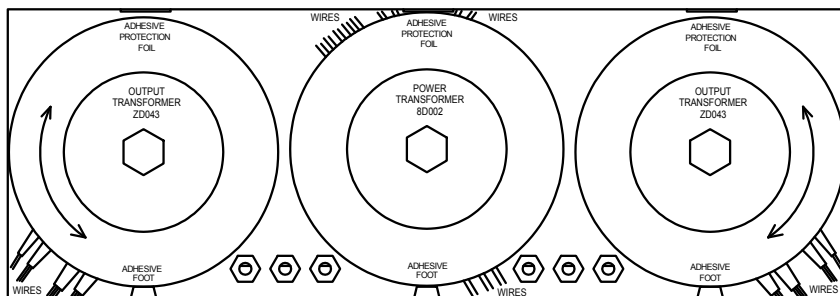

Fig. 6.0
- Mount an output transformer on the left-hand side of the housing, see figure 6.0.